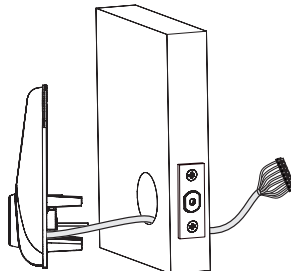

Figure 3A
A. Ensure that gasket on both Outside Escutcheon and Inside Mounting Plate (Figure 3A) is properly fitted. Use either Rubber gaskets for doors 37-50mm thick or Plastic gaskets for doors 32mm-36mm thick.
As you position the outside escutcheon, route the cable through 54mm diameter hole (Figure 3A).